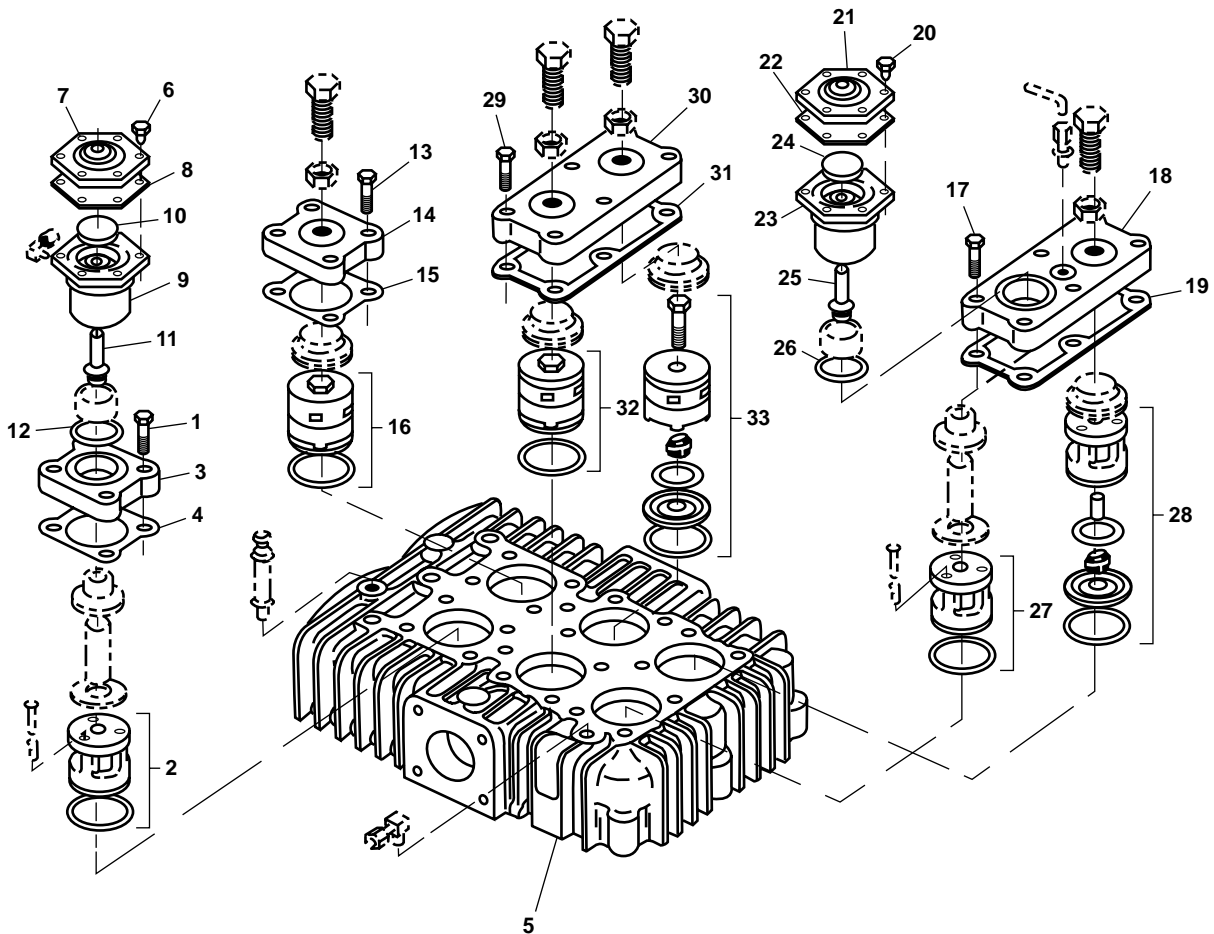

Figure 2. Compressor Valve Replacement
1. Remove the four bolts (figure 2, item 1) that secure the suction valve's (figure 2, item 2) valve cover plate (figure 2, item 3). Remove the valve cover plate and gasket (figure 2, item 4). Set aside the valve cover plate and discard the gasket.
2. Remove the suction valve (figure 2, item 2) from the head assembly (figure 2, item 5).
3. Remove the six bolts (figure 2, item 6) from the diaphragm cover plate (figure 2, item 7). Remove the cover plate and the diaphragm (figure 2, item 8). Discard the diaphragm.
4. Remove the unloader body (figure 2, item 9), diaphragm disc (figure 2, item 10), unloader piston assembly (figure 2, item 11), and spacer ring (figure 2, item 12) from the valve cover plate (figure 2, item 3). Discard the spacer ring.
5. Remove the four bolts (figure 2, item 13) that secure the discharge valve's valve cover plate (figure 2, item 14) to the head assembly (figure 2, item 5). Remove the valve cover plate and gasket (figure 2, item 15). Set aside the valve cover plate and discard the gasket.
6. Remove the discharge valve (figure 2, item 16) from the head assembly (figure 2, item 5).
7. Remove the six bolts (figure 2, item 17) that secure the valve cover plate (figure 2, item 18) to the head assembly (figure 2, item 5). Remove the valve cover plate and gasket (figure 2, item 19). Set aside the valve cover plate and discard the gasket.
8. Remove the six bolts (figure 2, item 20) from the diaphragm cover plate (figure 2, item 21). Remove the cover plate and diaphragm (figure 2, item 22). Discard the diaphragm.
9. Remove the unloader body (figure 2, item 23), diaphragm disc (figure 2, item 24), unloader piston assembly (figure 2, item 25), and gasket (figure 2, item 26) from the valve cover plate (figure 2, item 18). Discard the gasket.
10. Remove the suction valves (figure 2, items 27 and 28) from the head assembly (figure 2, item 5).
11. Remove the six bolts (figure 2, item 29) that secure the valve cover plate (figure 2, item 30) to the head assembly (figure 2, item 5). Remove the valve cover plate and gasket (figure 2, item 31). Set aside the valve cover plate and discard the gasket.
12. Remove the discharge valves (figure 2, items 32 and 33) from the head assembly (figure 2, item 5).
1. Install the discharge valves (figure 2, items 32 and 33) into the head assembly (figure 2, item 5).
2. Install the valve cover plate (figure 2, item 30) and new gasket (figure 2, item 31) on the head assembly (figure 2, item 5) and secure it with the six bolts (figure 2, item 29). Torque the bolts to 50 ft-lbs(67.8 Nm).
3. Install the suction valves (figure 2, items 27 and 28) into the head assembly (figure 2, item 5).
4. Install the unloader body (figure 2, item 23), diaphragm disc (figure 2, item 24), unloader piston assembly (figure 2, item 25), and new gasket (figure 2, item 26) into the valve cover plate (figure 2, item 18).
5. Install the new diaphragm (figure 2, item 22) and secure it with the diaphragm cover plate (figure 2, item 21) and six bolts (figure 2, item 20). Torque the bolts to 6 ft-lbs (8.13 Nm).
6. Install the valve cover plate (figure 2, item 18) and new gasket (figure 2, item 19) on the head assembly (figure 2, item 5) and secure it with the four bolts (figure 2, item 17). Torque the bolts to 50 ft-lbs(67.8 Nm).
7. Install the discharge valve (figure 2, item 16) into the head assembly (figure 2, item 5).
8. Secure the discharge valve's valve cover plate (figure 2, item 14) and new gasket (figure 2, item 15) to the head assembly (figure 2, item 5) with the four bolts (figure 2, item 13). Torque the bolts to 50 ft-lbs(67.8 Nm).
9. Install the unloader body (figure 2, item 9), diaphragm disc (figure 2, item 10), unloader piston assembly (figure 2, item 11), and new spacer ring (figure 2, item 12) into the valve cover plate (figure 2, item 3).
10. Install the new diaphragm (figure 2, item 8) and secure it with the diaphragm cover plate (figure 2, item 7) and six bolts (figure 2, item 6). Torque the bolts to 6 ft-lbs(8.13 Nm).
11. Install the suction valve (figure 2, item 2) into the head assembly (figure 2, item 5).